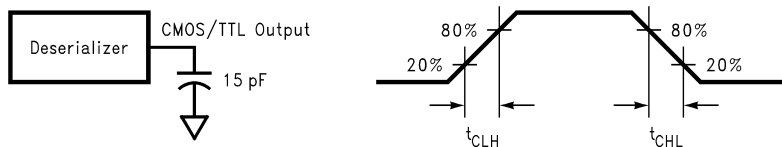

Figure 3. Deserializer CMOS/LVTTL Output Load and Transition Times
| t _{CLH} | LVC MOS/LVTTL Low-to-High Transition Time | C _L = 15pF, Figure 3 ⁽⁴⁾ | LOCK, RCLK, ROUT | 1.3 | 1.8 | 2.2 | ns |
(2) Total Supply Current when Powered Down (I_{CCXR}) is higher than previous six channel devices because previous devices asserted ROUTn and RCLKn into tri-state upon loss-of-lock, whereas the SCAN926260 now asserts ROUTn and RCLKn HIGH upon loss-of-lock.
(3) t_{RDC} was specified by measuring the positive pulse on the RCLK and dividing this number by the ideal pulse width.
(4) t_{CLH} and t_{CHL} are Ensured by Statistical Analysis (EBSA). Please see Figure 3 for a graphical representation.